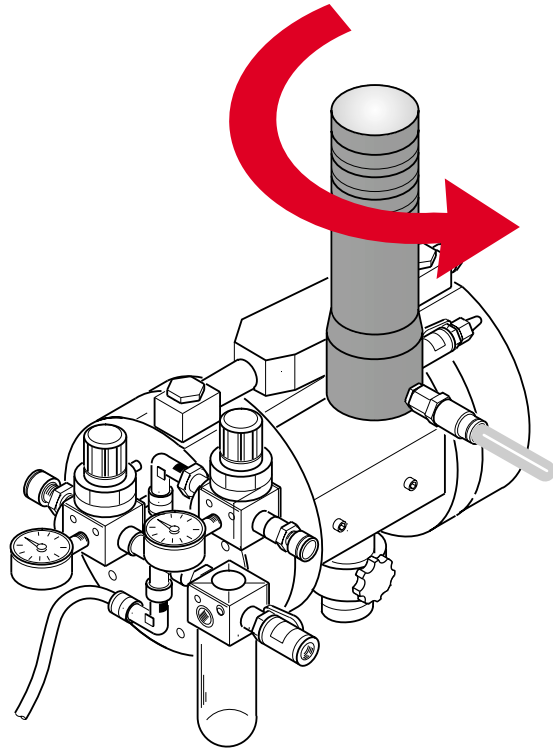

Fig.38
4) **NEVER** remove the upper filter casing while the machine is in operation (fig. 38) but proceed in the following way: